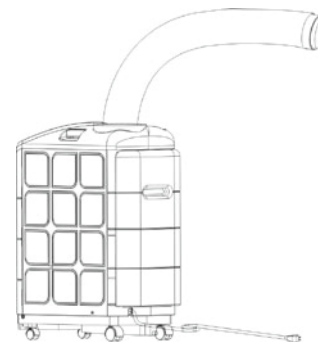

Fig 1.
A. Remove cover and pull out exhaust hose: Fig 1